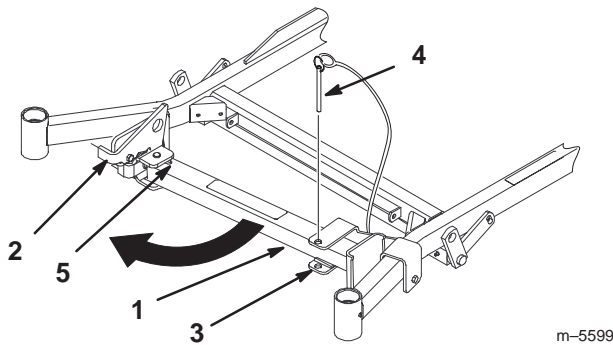

Figure 30
2. Remove the bracket pin (Fig. 30).
3. Raise the latch. Swing the stand foot out front and slide stand toward machine, into the bottom of slot (Fig. 30 and 31).
5. Return the stand to its rest position (Fig. 30).